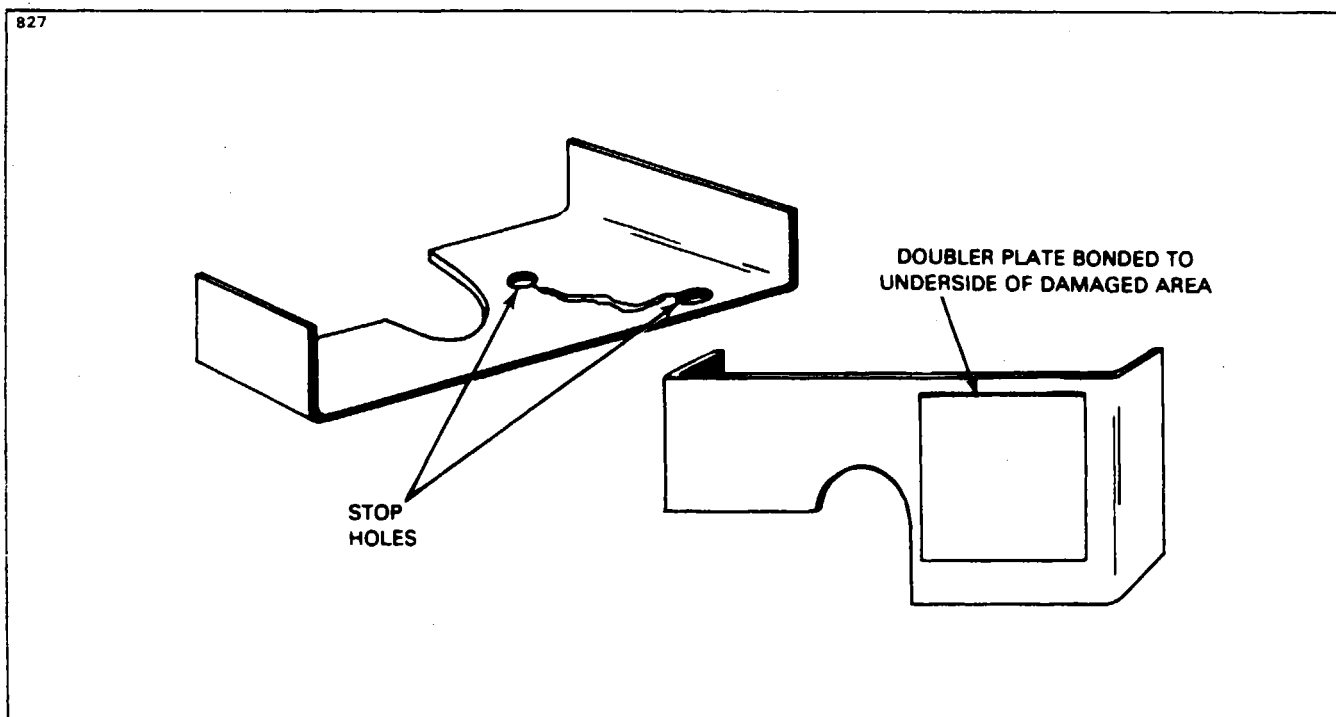

Figure 4-31. Repairing of Cracks
- d. Cracks: (Refer to Figure 4-31.)